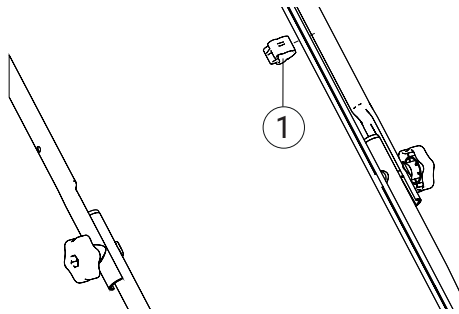

Figure 5
3. Insert the cables into the cable clamp and attach the cable clip to the handle (Figure 5).